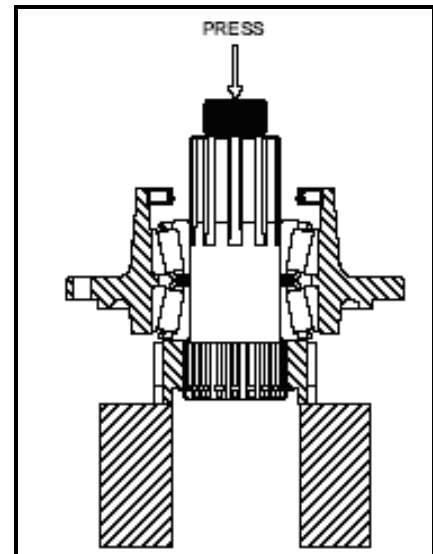

Figure 28
- 3) Place the shaft assembly in a press such that the face of the clutch gear is supported and the press arbor bears against the threaded end of the shaft. See **Figure 28**. Be sure that the outer diameter of the snap ring will clear the support. Remove the carrier assembly, the inner bearing cone assembly, the bearing spacer ring, and the clutch gear.